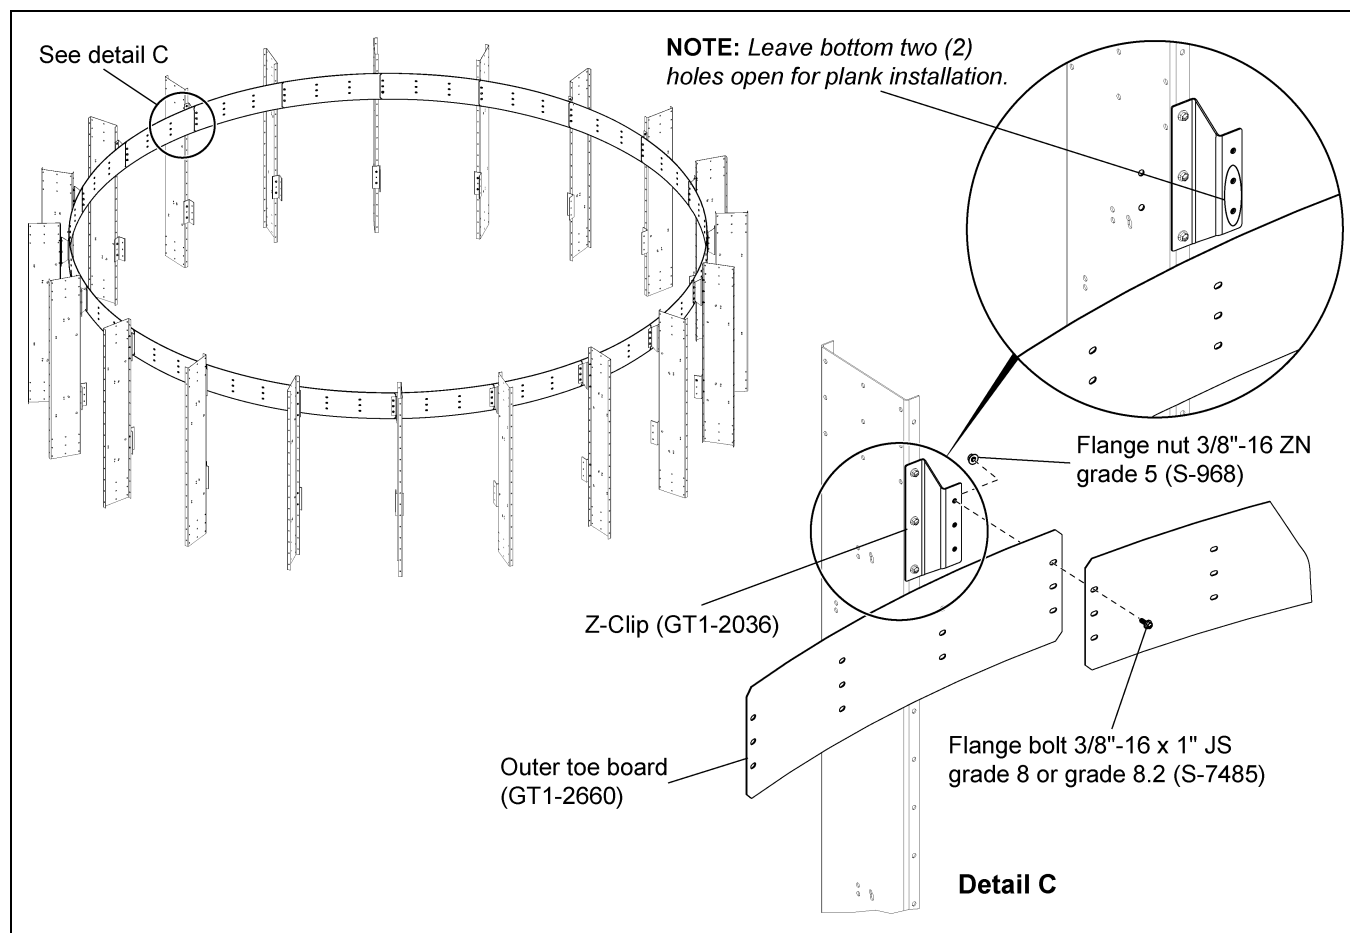

Figure 5D
1. Install the outer toe board (GT1-2660) to the Z-clips (GT1-2036). All toe boards should be installed between the Z-clips using 3/8"-16 x 1" JS grade 8 or grade 8.2 bolts (S-7485) and 3/8"-16 ZN grade 5 nuts (S-968). (See Figure 5D.)